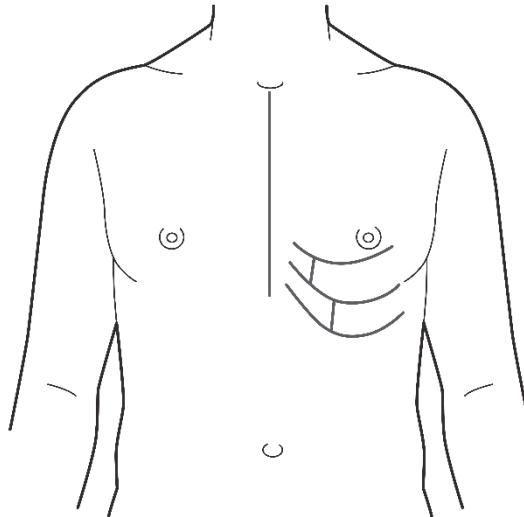

Figure 8: Mark where the 6th ICS opens to 1 cm and ensure this 1 cm spacing along ICS.
9. Repeat steps 7 and 8 for the 6th ICS however instead of starting the process at the sternum, start the process lateral to any co-joining or spacing less than 1 cm of the 6th and 7th costal cartilages. See Figure 8.